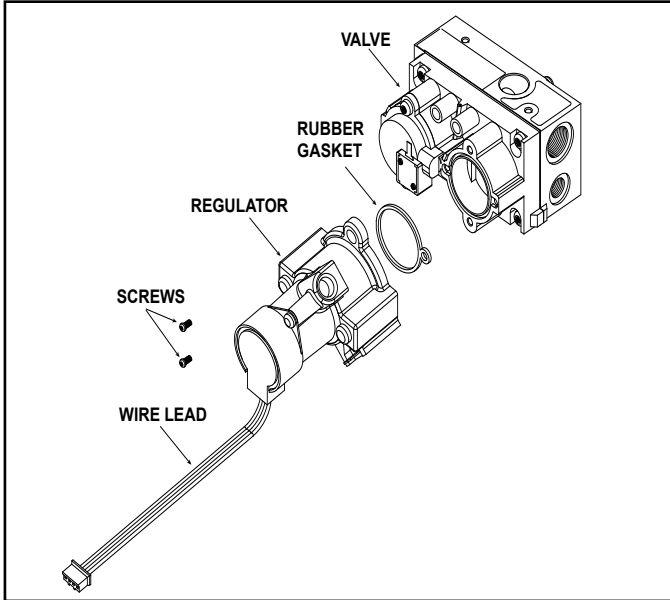

Figure 5
10. Using a #20 tamper-proof Torx screwdriver, remove the regulator and rubber gasket on face of valve. See Figure 5. Discard both the regulator and gasket.
11. Install the rubber gasket and new regulator included in the conversion kit. Be sure the gasket is seated properly as shown in Figure 5.